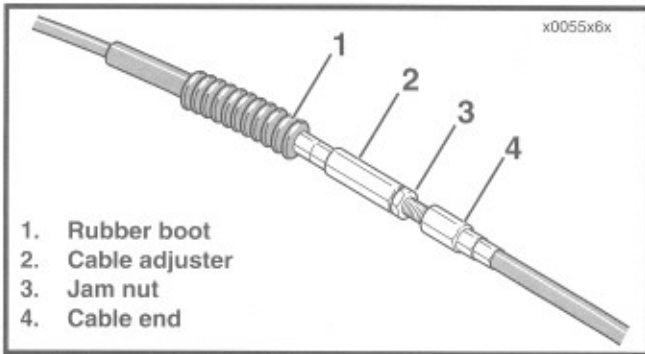

Figure 6-10. Clutch Cable Adjuster Mechanism
1. See Figure 6-10. Slide rubber boot off cable adjuster.